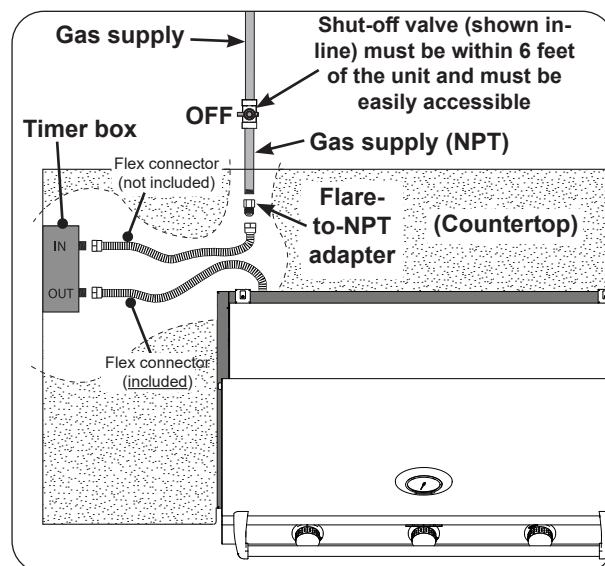

Fig. 25-2 Household LP & Nat. gas diagram
3. Using two wrenches, connect the flex connector coming from the grill to the $\frac{1}{2}$ " **flare adapter labeled OUT**. See Fig. 25-2. Ensure the connection is tightened securely.
4. **Connect gas source to IN:** Using two wrenches, connect a flex connector (not included) to the $\frac{1}{2}$ " **flare adapter labeled IN**. See Fig. 25-2. Ensure the connection is tightened securely.
5. Route the flex connector coming from the timer box to the gas supply stub (see Fig. 25-2).